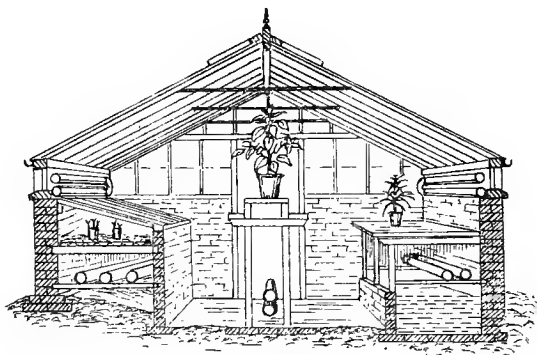

FIG 15.
**Stove Plants.**—Low growing plants such as gloxinias, gesneras, achimenes, coleus, poinsettias, etc., succeed well in low and rather flat span-roofed houses, such as that shown in Fig. 15, with plenty of heating power. Tropical subjects of taller habit, including large palms, musas, bamboos, ferns, also large specimen draenas, crotons, and so forth, need a loftier structure, of course, but of the same type. But little ventilation is usually required in such structures, especially if lofty; yet it is usual to fix a
facing east, lightly shaded during the middle of the day only by some lofty trees growing near the southern end, but receiving the nearly full benefit of the sun in the morning and evening. Most of the *dendrobium*s will thrive in a low, warm, span-roofed structure running east and west, shaded on the south from powerful sun, and ventilated chiefly by means of openings arranged along the sides. For a large number of the more commonly grown orchids of an intermediate or temperate character, a well heated structure, such as that illustrated in Fig. 15, and suitable for *bouvardias*,